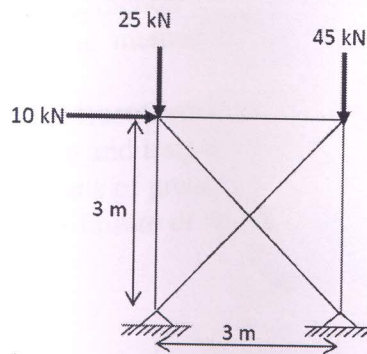

Fig. 10
11. Analyse the plane truss supported and loaded as shown in Fig. 10. Assume AE is constant. [10]